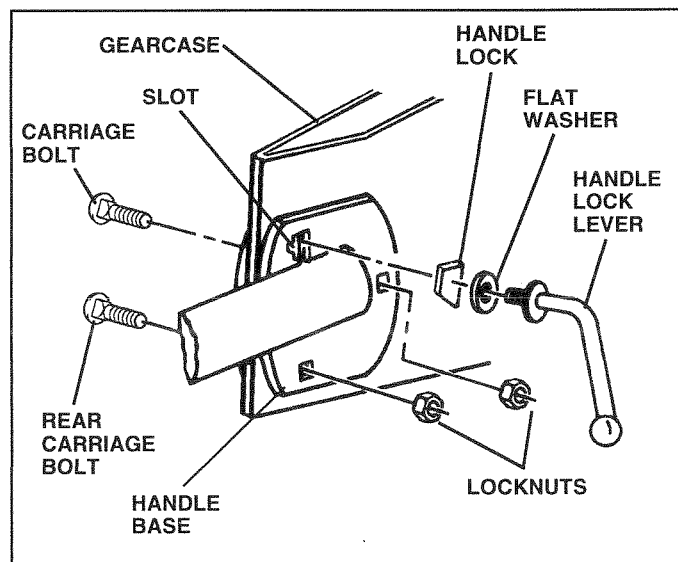

FIG. 5
- Rotate handle assembly down. Insert rear carriage bolt first, with head of bolt on L.H. side of tiller (See Fig. 5).